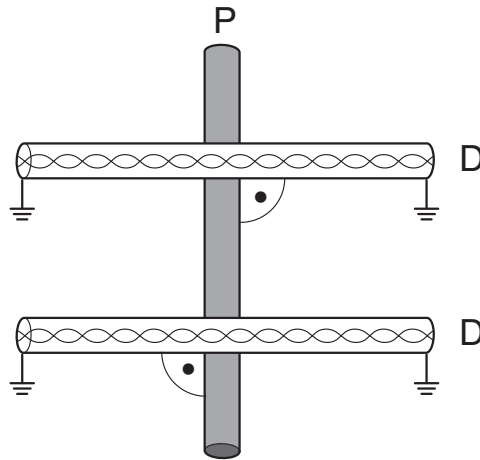

Figure 6-3 Installation of the data cables
- Data cables may only cross power cables at a right angle (see Figure 6-3 on page 46).